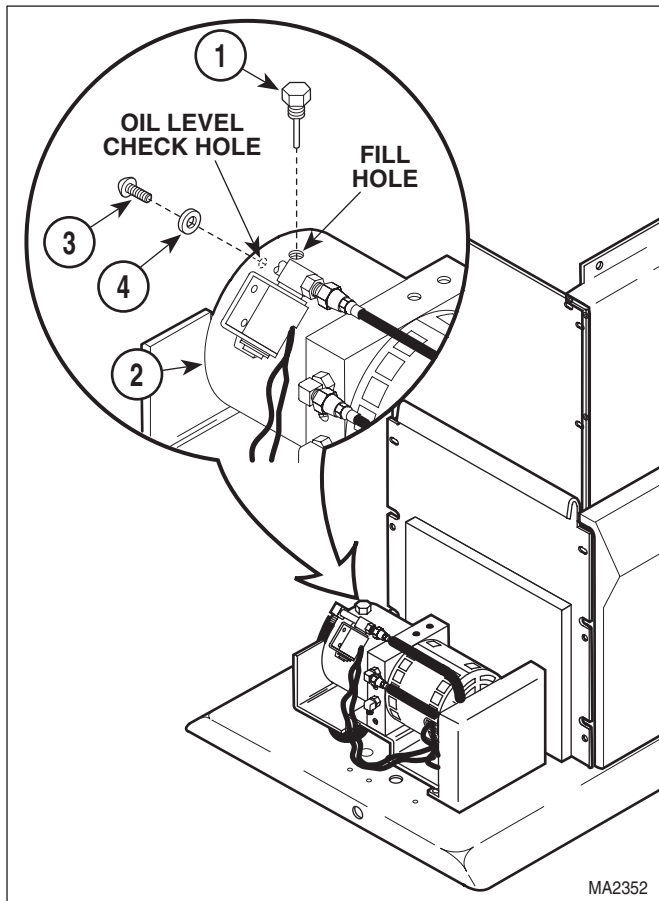

Figure 4-2. Checking / Adding Oil To Motor Pump
- (1) Move the BASE DOWN, BACK DOWN, TILT DOWN, and FOOT DOWN functions all the way down.
- (2) Remove motor cover assembly (Refer to para 4.2).
- (3) Remove filler cap (1, Figure 4-2) from motor pump (2).
- (4) Remove screw (3) and gasket (4) from motor pump (2).
- (5) Check oil level. If oil level in reservoir is not even with oil level check hole, oil must be added.
- (6) Place a rag under oil level check hole.